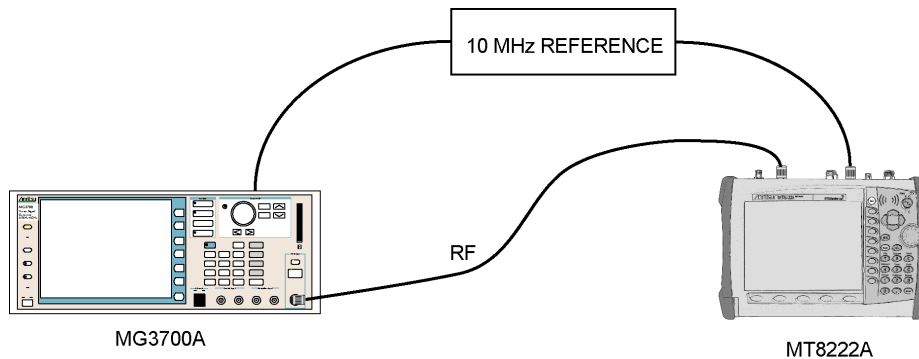

Figure 5-15. Mobile WiMAX Residual EVM and Frequency Error Tests
1. Connect the 10 MHz Reference to the 10MHz/5MHz Ref Input of the MG3700A and the Ext Ref In of the MT8222A as shown in Figure 5-15.